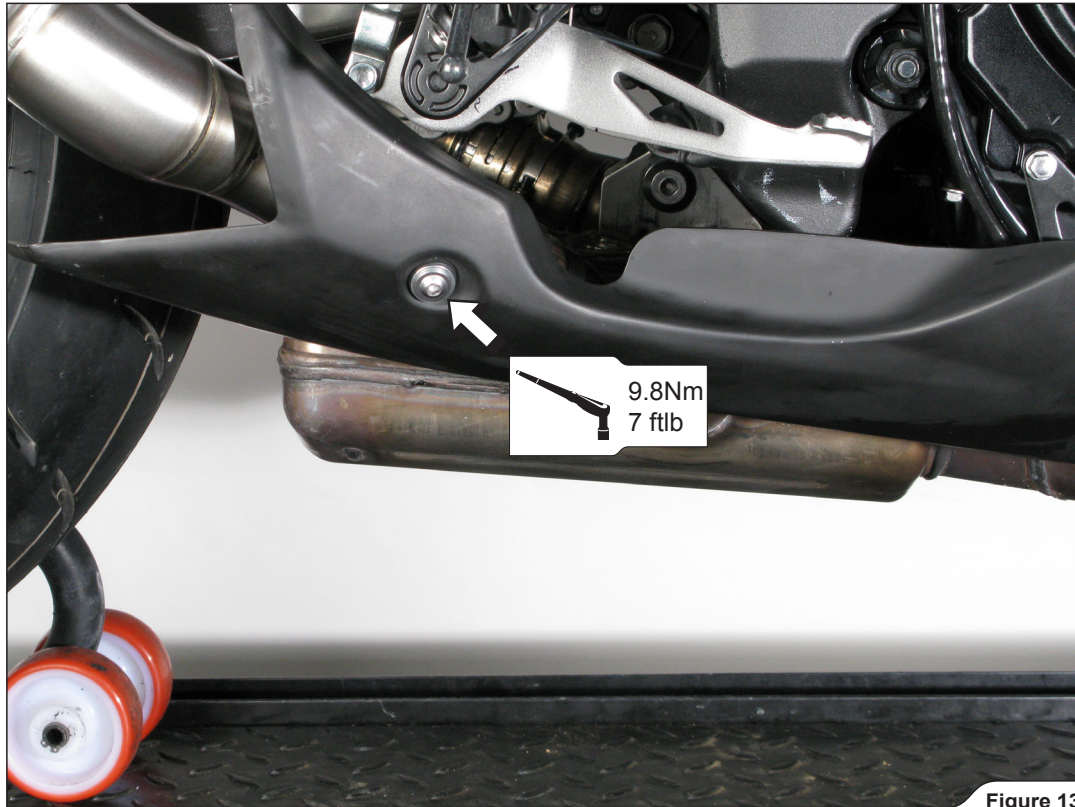

Figure 13
6. Install the stock heatshield back on the right side of the motorcycle, using stock bolt and washer (Figure 13).